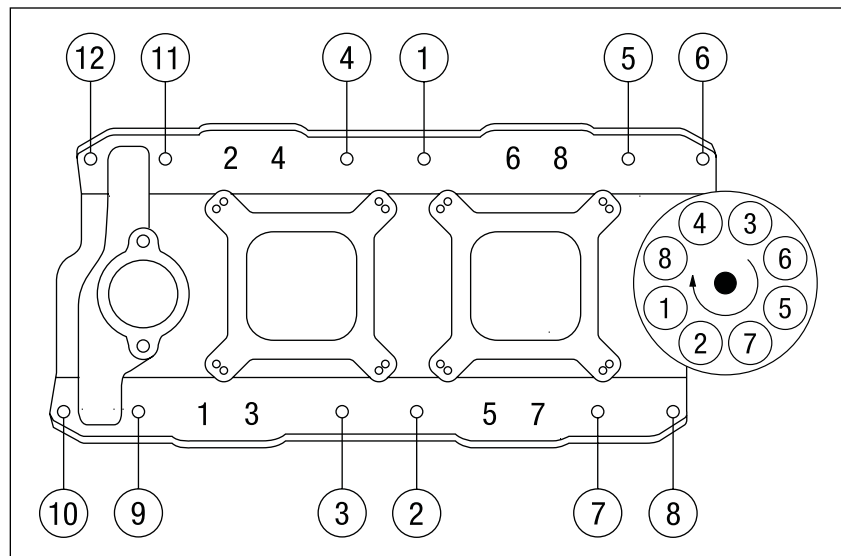

Figure 1 - Intake Manifold Bolt Tightening Sequence
5. Install the intake manifold hold-down bolts (We offer an Intake Manifold Bolt Kit #8504 that includes small-head silver Cadmium-plated bolts and matching hardened washers). Apply a small amount of RTV silicone to the threads of the eight inner bolts (1, 2, 3, 4, 5, 7, 9, & 11) (**See Figure 1**). This will prevent oil weepage, as generally these are not blind holes in the cylinder head.
6. Torque all of the manifold bolts in two steps by the sequence shown in Figure 1 to 25 ft/lbs.